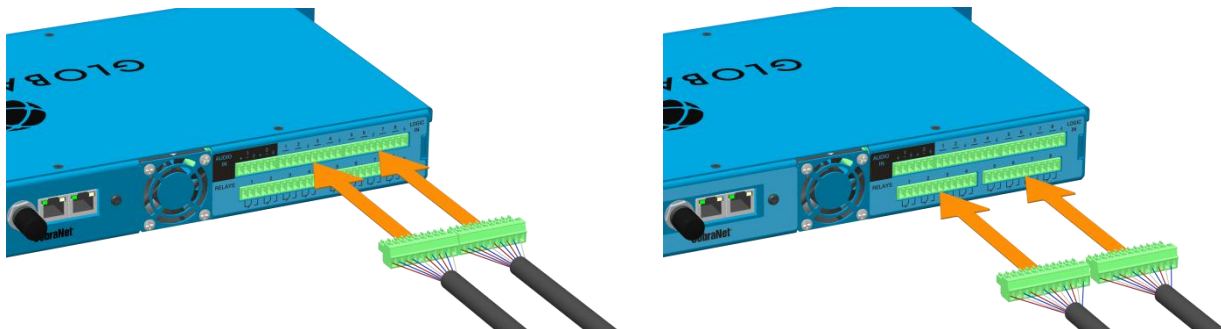

Figure 10: Connecting Logic and Relay Lines
The IP100 provides eight (8) logic sensor inputs that can be used to trigger announcements, indicate a fault with external equipment or mute the system, for example. Also there are eight (8) dry contact outputs which can provide control to external systems or indicate a system status, for example. As required for the application, attach logic input lines and relay output lines to the terminal blocks provided, as shown in Figure 10.